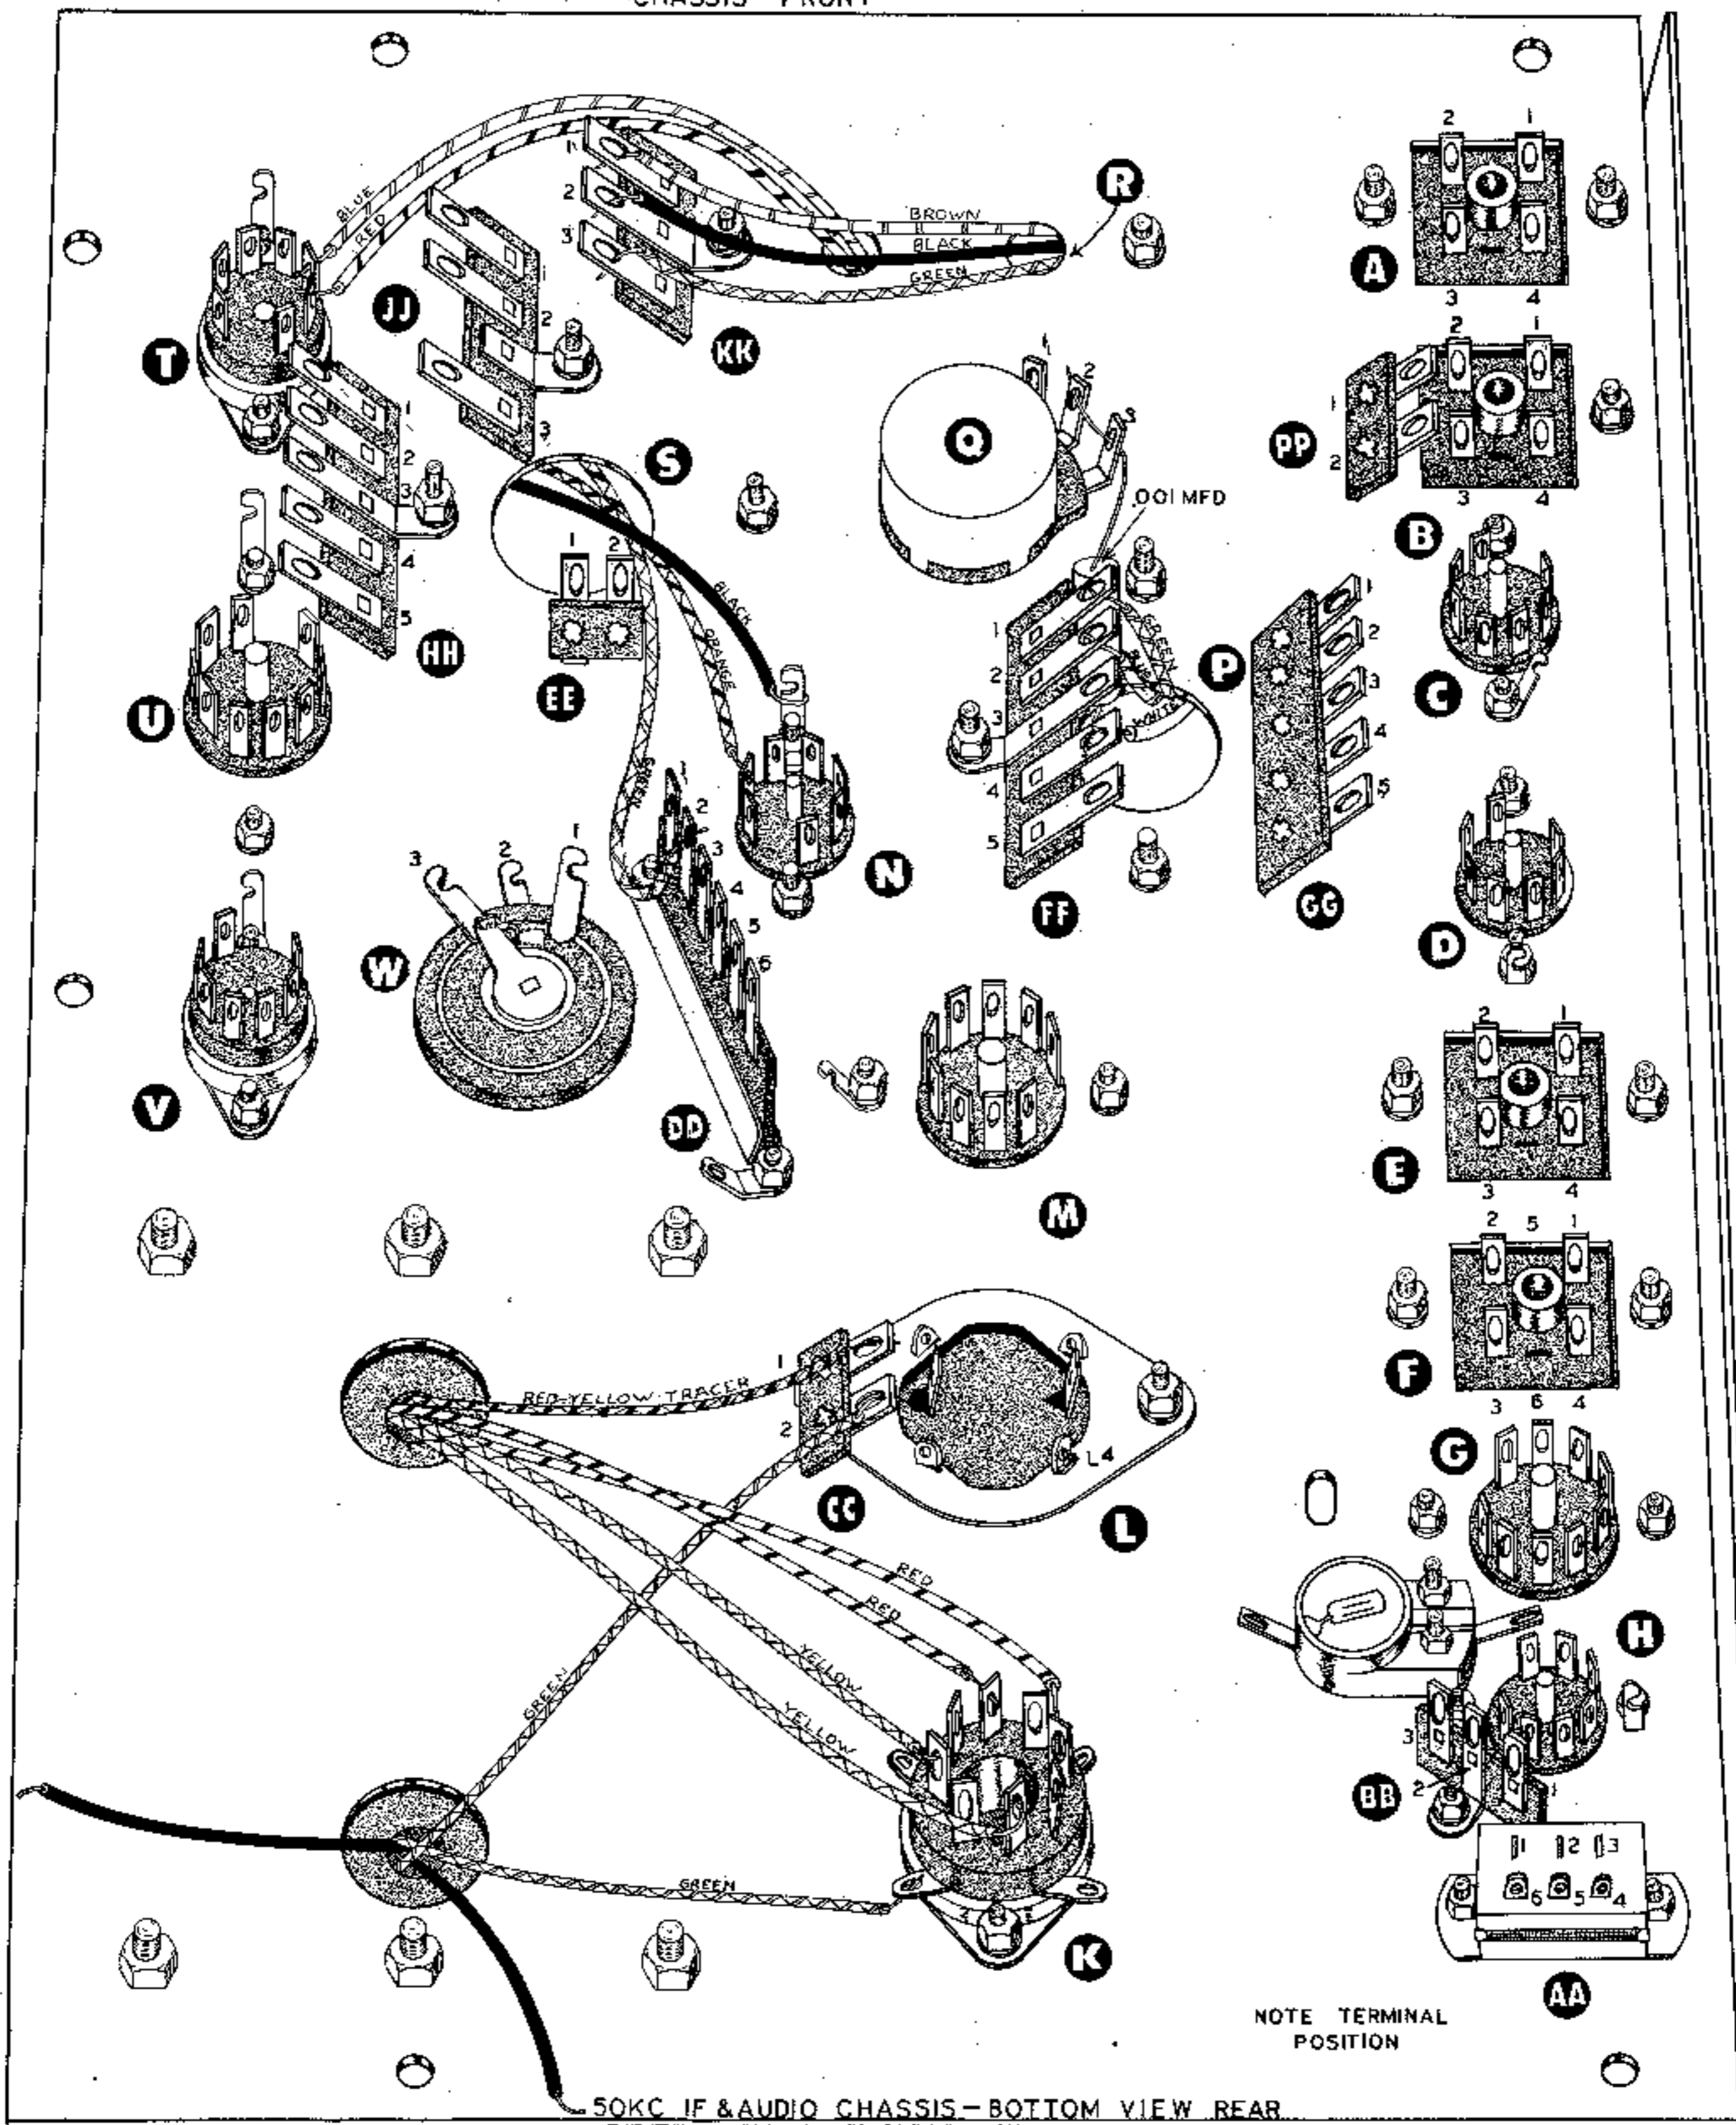

Figure 4
- ( ) By referring to Figure 4, locate the IF-Audio chassis and mount a 7 pin miniature shielded ceramic socket at hole C with the tube pins faced as shown, using 3-48 x 1/4" screws with a nut and lockwasher on the front mounting holes. On the rear mounting hole, mount a small solder lug with a lockwasher on each side of it. Position and bend lug as shown.
- ( ) Identify the 6 pin special socket by referring to Figure 4 (rear corner). Note that three terminals are at right angles to the others. Mount the socket at location AA, positioning the terminals as shown; use 3-48 screws, lockwashers and nuts.
- ( ) Mount a 3 lug terminal strip in the hole next to the ceramic trimmer capacitor as shown in Figure 4.
- ( ) Mount the capacitor wafer at hole L. Identify the metal wafer and a 2 lug terminal strip from Figure 4 and mount the two together as shown, using 6-32 hardware.
- ( ) There are four 50 KC IF transformers which are all electrically the same. Mount in holes A, B, E, and F, using 4-40 nuts and lockwashers. The transformers have numbers on the base which must be in the positions shown on Figure 4. Using the mounting stud of the 50 KC IF transformer "B", mount a 2 lug terminal strip as shown.
- ( ) The filter capacitor consists of a 100 mfd and 40 mfd section. Note that the 100 mfd section is marked with a U shaped cut out and the 40 mfd section with a triangle. This capacitor is mounted by sliding the ears through the holes in the mounting wafer from the top of the chassis with the U shaped hole toward the power transformer. When the capacitor is correctly positioned, hold it tight against the chassis and secure by twisting the ears approximately 1/8 turn. Solder lug L4 to capacitor mounting wafer as shown in Figure 4.
shaft toward the front of the chassis (away from the power transformer). Two of the studs have 5 lug terminal strips on them. See Figure 4 page 20 for type and position of terminal strips. Assemble these last and place lockwashers on each side of the terminal strip mounting feet.
- ( ) Identify the BFO coil by the marking 40-121 on top. This unit is mounted in the same manner as the bridged T but at hole S. There are 2 lug, 3 lug, and 5 lug terminal strips mounted by means of the coil studs. See Figure 4 for type and mounting positions of the terminal strips. As before, center the stud in the slotted chassis holes and face tuning shaft toward the front of the chassis.
See Figure 4 for the following wiring.
- ( ) On the BFO coil S, connect the black lead to the ground lug at socket N (NS).
- ( ) Connect the orange lead to N2 (NS).
- ( ) Connect the green lead to DD2 (NS).
- ( ) See Figure 4 page 20 and place a .001 mfd paper capacitor where shown. Connect one lead to FF4 (NS); run the other lead through Q3 to Q2; solder Q3 and Q2.
- ( ) Connect the green wire from the Bridge T coil P to FF1 (NS).
- ( ) Connect the blue wire to FF2 (NS).